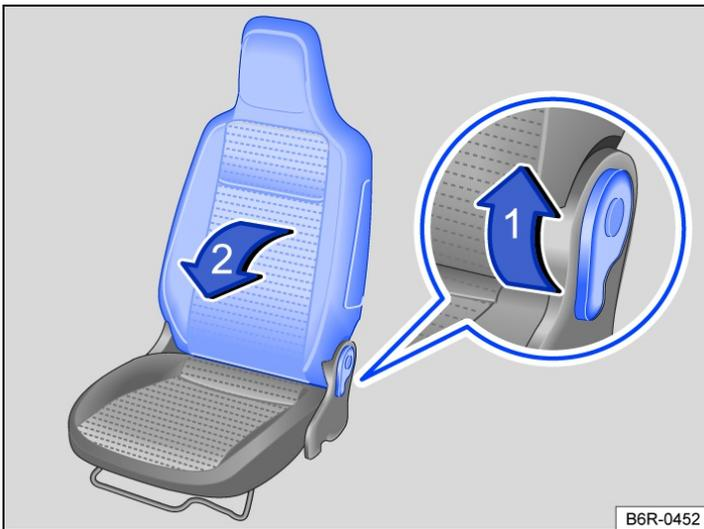

Fig. 1 Front passenger seat: folding backrest forwards.
- Release the front passenger seat backrest with the lever on the inside or outside of the seat in the direction of the arrow *→ Fig. 1* ¹.
- Fold the front passenger seat backrest forwards in the direction of the arrow *→ Fig. 1* ² until it is horizontal.